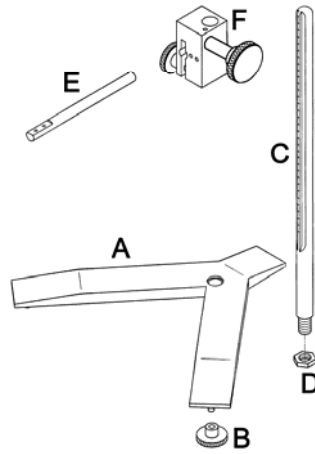

Fig. 6 Set-up for the viscometer base
- Remove all of the parts from the carry-case. Note the figure below (fig 6).
- Correctly place the three height adjustable knobs (B) on the Y-shaped base (A).
- Mount the fastening rod (C) with the holding screw (D) at the base (A).
- Attach the nut (F) to the fastening rod. The viscometer should be connected to the nut (F) by means of its rod (E).